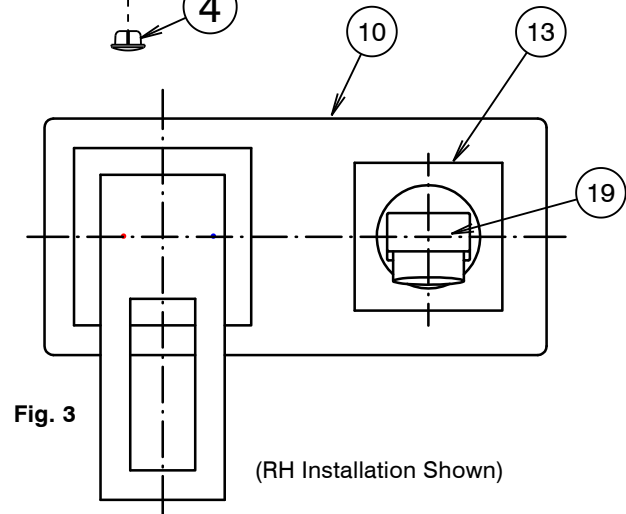

Fig. 3
* Mixer body (8) must be installed square to wall/tile face, to ensure cover plate (10) sits flush.
- 2) Accurately mount a wall elbow (12⁺) (or equivalent) for connection to the basin outlet in the desired orientation (to the right or left of mixer body)(Fig. 3).